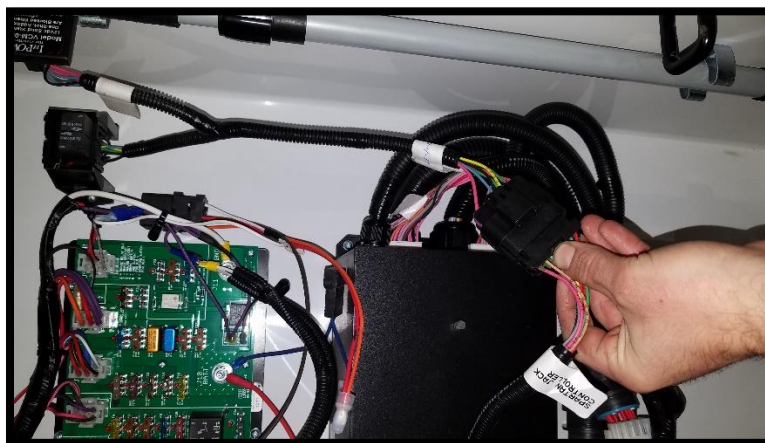
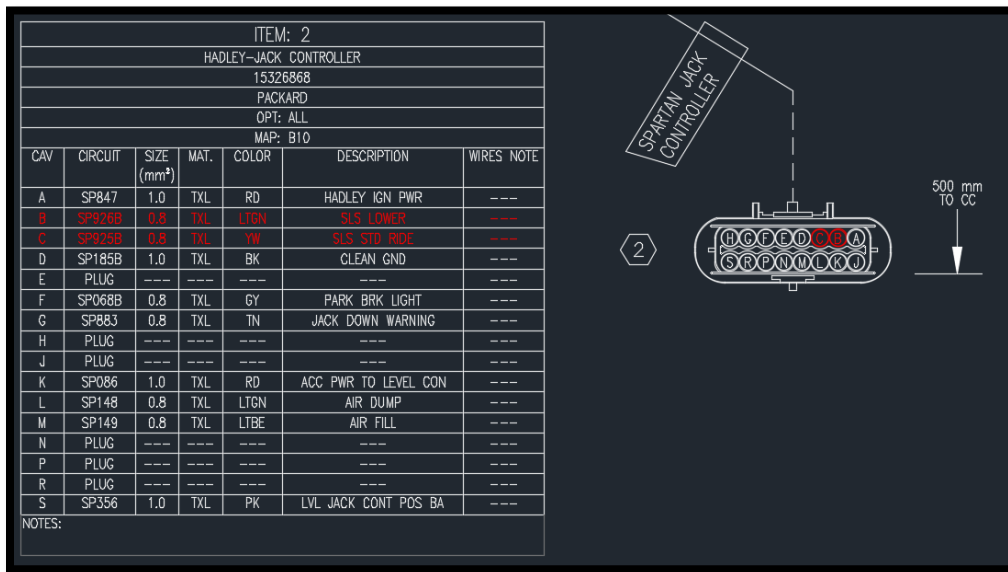

FIG. 2-1
FIG. 3-1
3. Locate Spartan Jack Controller (Item #2) on Hadley Interface Harness. Refer to FIG. 2-1 and FIG. 3-1